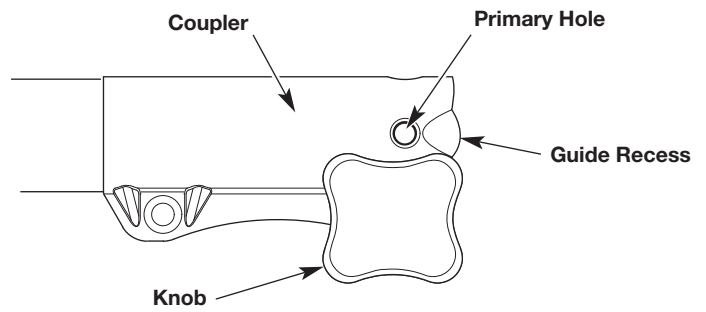
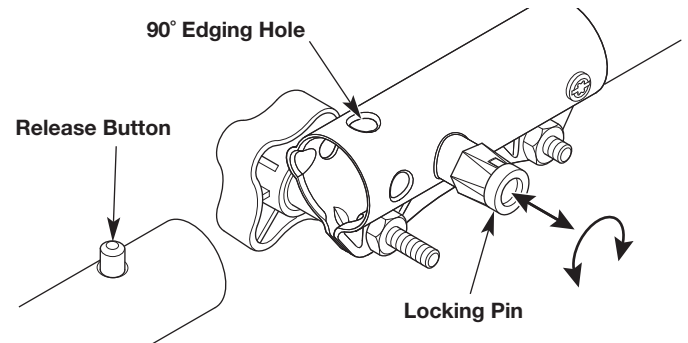

Fig. 2
Fig. 3
1. Turn the knob counterclockwise to loosen the coupler (Fig. 2).
2. Pull the locking pin out and turn it 90 degrees (Fig. 3), either clockwise or counterclockwise.
- a. If the attachment has a release button (Fig. 3), snap it into the primary hole (Fig. 2), unless noted otherwise in the operator's manual for the attachment.
**NOTE:** Aligning the release button with the guide recess will help installation (Fig. 2).
For decorative edging with most string trimmer attachments, lock the release button into the 90° edging hole (Fig. 3).
- a. If the attachment has a release button, press and hold the release button (Fig. 3).
- b. If the attachment does not have a release button, pull the locking pin out and turn it 90 degrees (Fig. 3), either clockwise or counterclockwise.